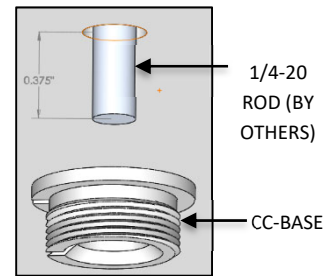

FIG. 20 - GRID CEILING INSTALLATION
- Add a light thread locking compound to the 1/4-20 ROD (by others). Then thread CC-BASE to 1/4-20 ROD protruding through the ceiling material as shown in FIG. 20.